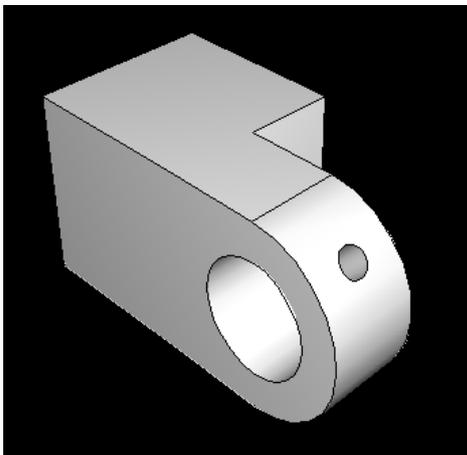

Figure C-19 Isometric view of the first hinge.
12. From the **Render Style** toolbar, select the shaded display tool  if necessary, and use the rotation tool  to see how the part and its features are oriented, as shown in Figure C-19. (For clarity, the datum geometry has been removed from the view in Figure C-19 by selecting **View**→**Part Display Options**→**Datum**.)